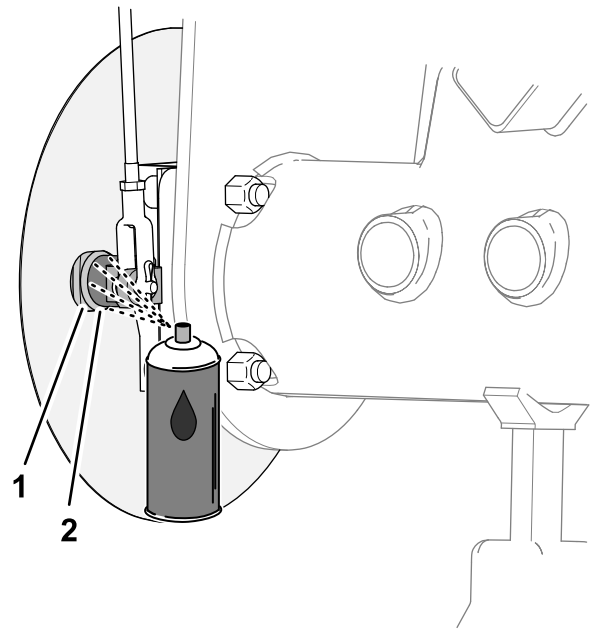
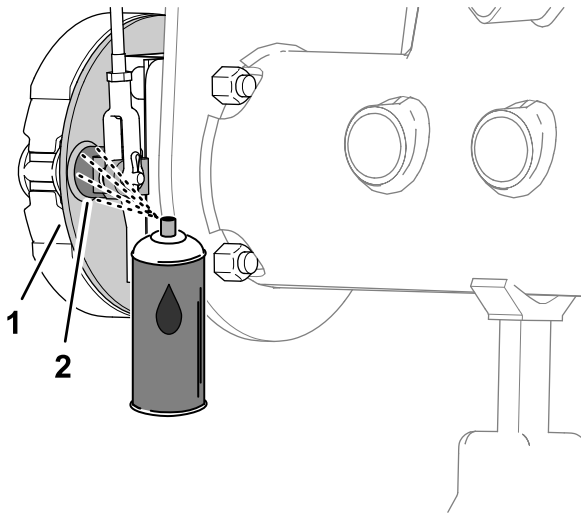

Figure 66
Figure 65
1. At the inboard side of the brake-backing plate (machines without the optional wheel-rim grass shield) or the wheel shield (machines with the optional wheel-rim grass shield), spray penetrating oil between the brake cam shaft and the backing plate (Figure 65 or Figure 66).